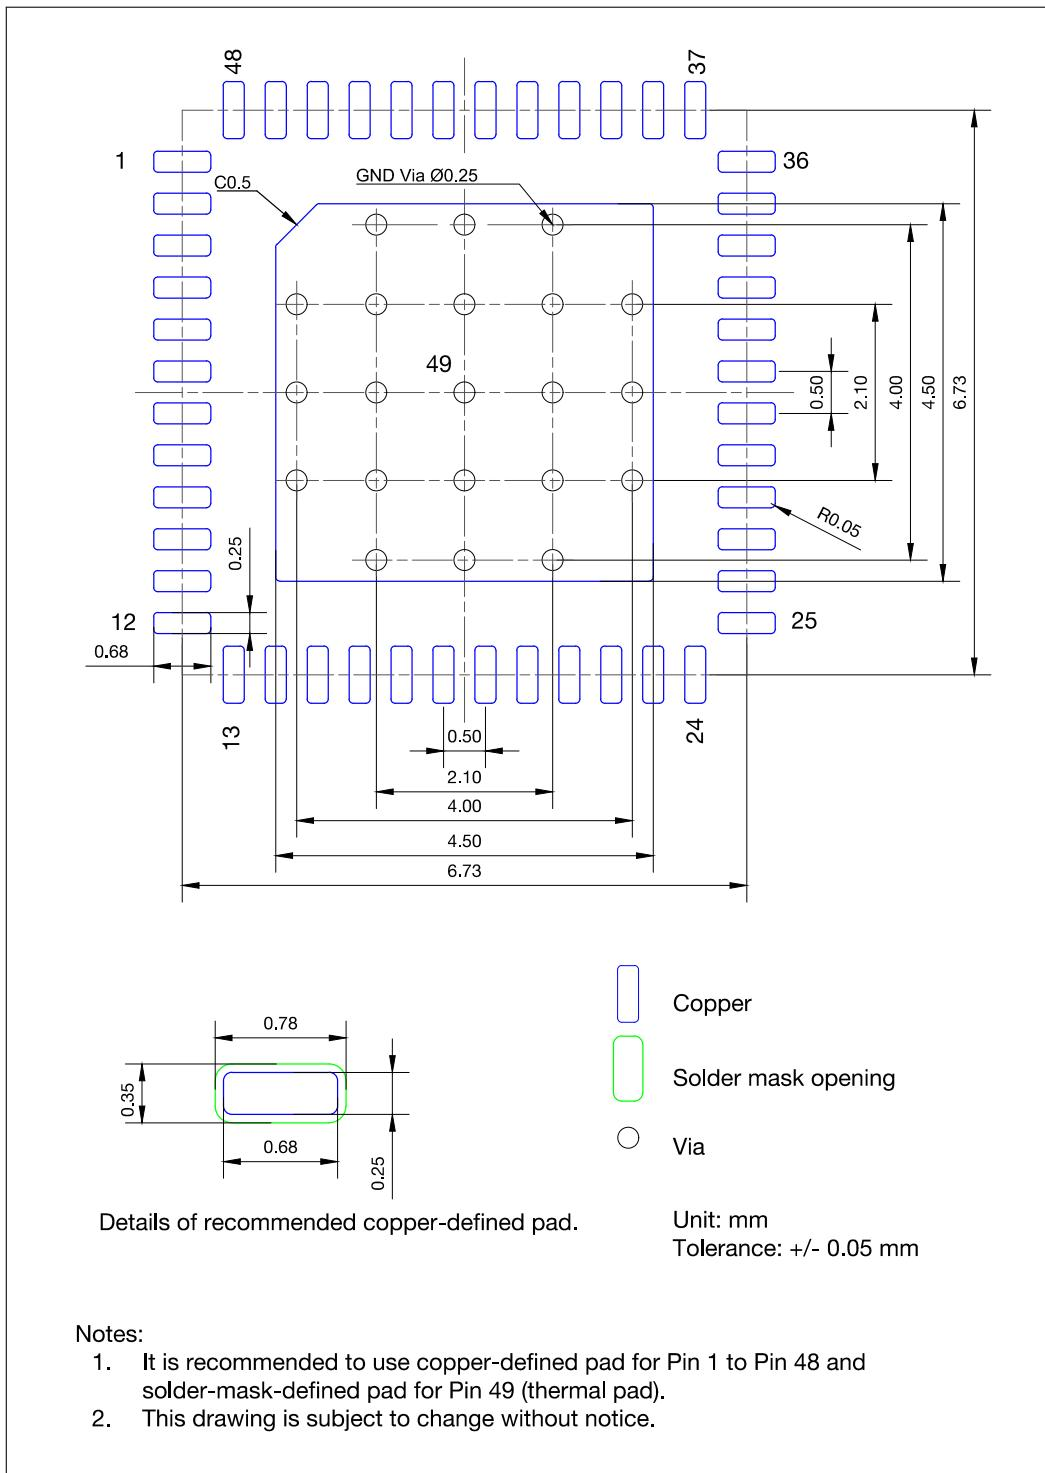

Figure 15: ESP32-PICO PCB Land Pattern
- Figures for recommended PCB land patterns with all the dimensions needed for PCB design. See Figure 15 ESP32-PICO PCB Land Pattern.
- Source files of recommended PCB land patterns to measure dimensions not covered in Figure 15. You can view the source files for ESP32-PICO-D4, ESP32-PICO-V3, and ESP2-PICO-V3-02 with Autodesk Viewer.